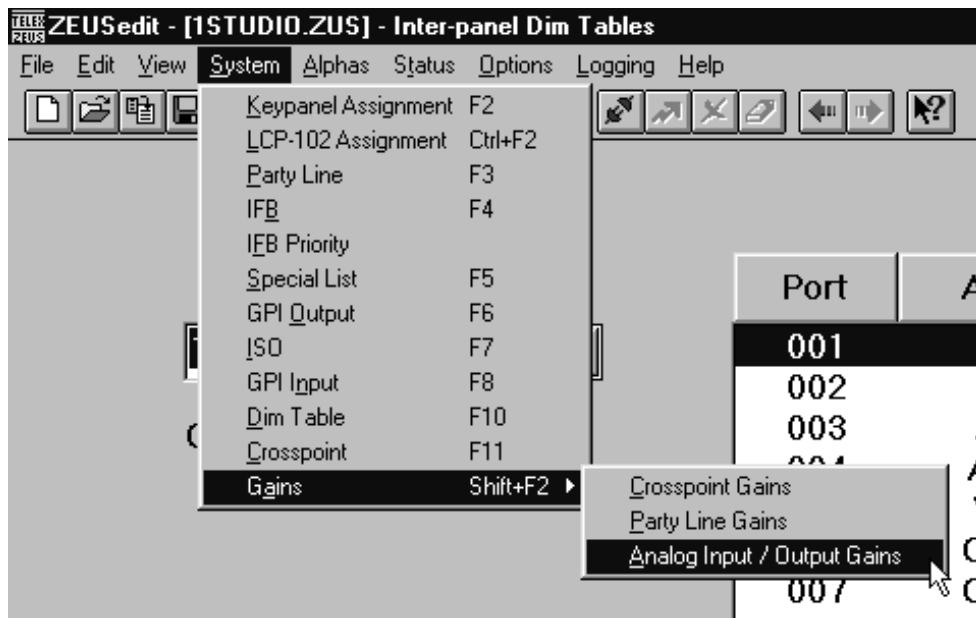

Figure 6. Accessing the Analog Input / Output Gain Adjustment.
19. To finish, we'll discuss the analog gain adjustment. In the 1studio.zus example, one possible use of this adjustment might be to adjust the audio output levels to the camera intercoms. These devices may be operating at a different audio level than the intercom system. As a result, any communications to the camera operators from any keypanel might sound too loud or soft. You adjust audio input and output gain from the System menu (Figure 6). As with most of the setup tables, you can get help with analog input and output gain adjustment by pressing the F1 key while viewing the table.